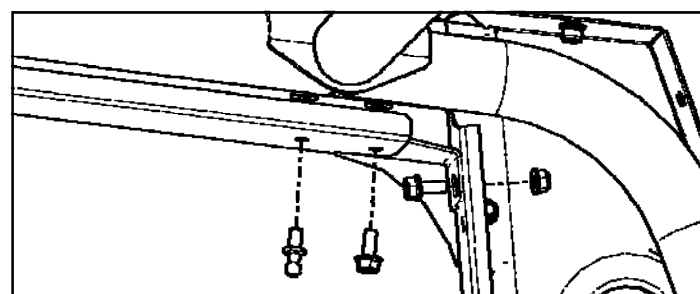

Figure 7.3: Side headers A-pillar bracket (left shown)
- (1) 10mm Ball stud (5/16-18 thread)
- (3) 5/16-18 Flanged nut
Attach the side header to the A-pillar with a front header bracket, with a Ball stud in the rear hole in the header and two (2) 5/16 x 3/4" bolts and nuts. Leave bolts loose **(Figure 7.3).**